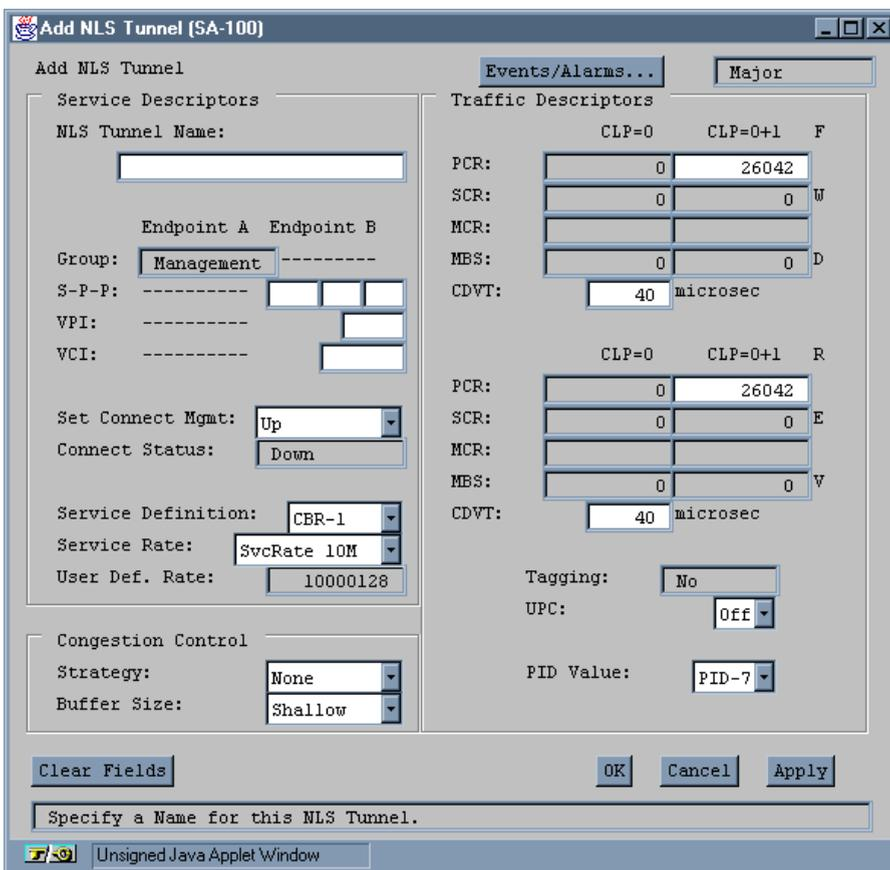

Figure 5-12. Add NLS Tunnel Window
3. Choose the Add NLS Tunnel button. The Add NLS Tunnel window appears (Figure 5-12):
2. Choose the Modify button. The Modify NLS Tunnel window appears, nearly identical to the Add NLS Tunnel window (see Figure 5-12).
To enable an NLS tunnel from the Add or Modify NLS Tunnel window (Figure 5-12 on page 5-29):